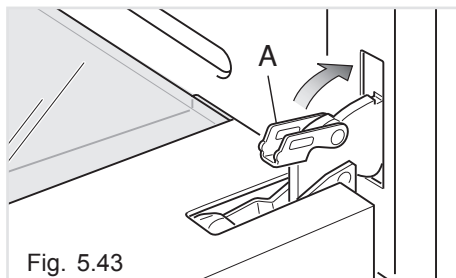

Fig. 5.43
4. Unlock the oven door by opening it completely and closing the lever "A" on the left and right hinges (fig. 5.43).